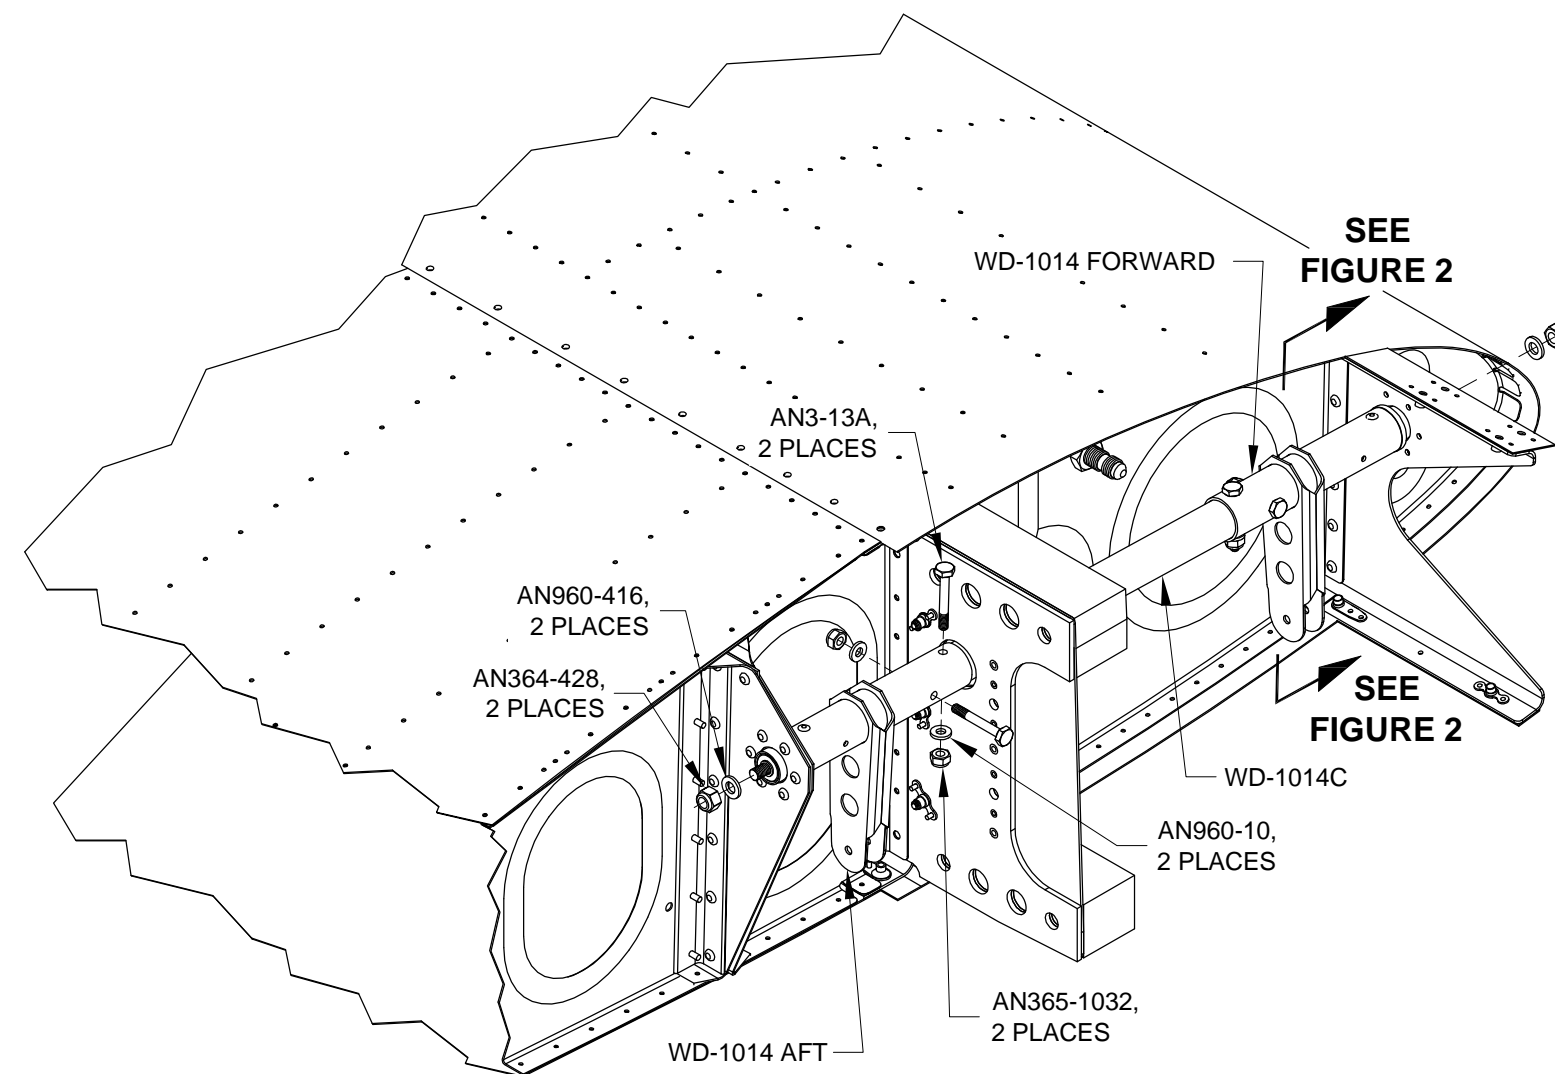

FIGURE 1:
Step 2: Angle the WD-1014C Torque Tube Collar down as it extends aft through the hole in the spar web and slip the WD-1014 AFT Aft Torque Tube Subassembly over the torque tube collar. Engage the WD-1014 AFT Aft Torque Tube Subassembly and the torque tube collar far enough to allow the threaded ends of the torque tube subassemblies to be inserted into the flanged bearings riveted into the wing structure. Disengage the aft torque tube subassembly and torque tube collar slightly as the threaded ends of the torque tube subassemblies are inserted into the bearings. See Figure 1.
Step 3: Install washers and nuts on the WD-1014 FORWARD and WD-1014 AFT Torque Tube Subassemblies as shown in Figure 1.
Install bolts, washers, and nuts as shown in Figure 1 to attach the aft torque tube subassembly to the torque tube collar.